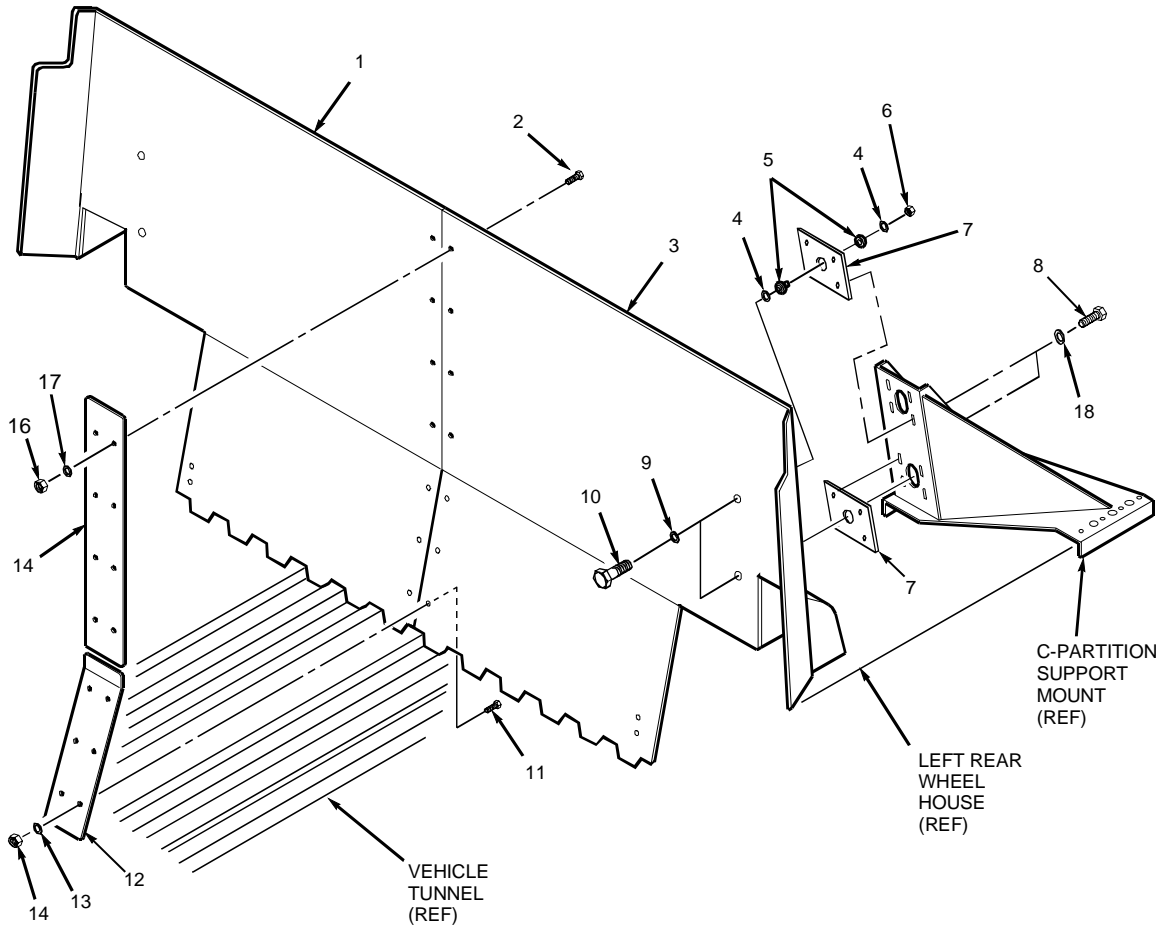

Figure 1-13. C-Partition Installation (4 Door Only)
- 3) Install C-partition as follows (see figure 1-13).
- a. Apply Sealing compound to 16 capscrews (8).
- b. Position left C-partition (3) and right C-partition (1) onto vehicle.
- c. Install upper C-partition gap strip (15) onto left C-partition (3) and secure with four capscrews (2), washers (17) and locknuts (16). Torque capscrews (2) to 37 lb ft (50 N•m).
- d. Secure right C-partition (1) to C-partition gap strip (15) with four capscrews (2), washers (17) and locknuts (16). Torque capscrews (2) to 37 lb ft (50 N•m).
- e. Install lower C-partition gap strip (12) onto left C-partition (3) and secure with three capscrews (11), washers (13) and locknuts (14). Torque capscrews (11) to 37 lb ft (50 N•m).
- f. Secure right C-partition (1) to lower C-partition gap strip (12) with three capscrews (11), washers (13) and locknuts (14). Torque capscrews (11) to 37 lb ft (50 N•m).
- g. Install two each isolation mount bushings (5) onto two C-partition mount brackets (7).
- h. Install two isolation mount brackets (7) onto C-partition support mount.
- i. Install two isolation mount brackets (7) onto C-partition support mount. Install two capscrews (10), two washers (9), four washers (4), and two locknuts (6). Secure each bracket (7) with four capscrews (8) and washers (18).
- j. Torque two locknuts (6) to 37 lb ft (50 N•m). Torque eight capscrews (8) to 21 lb ft (28 N•m).
- a. Install two isolator mount bushings (5) into isolator bracket (6).
- b. Install washer (4) onto two capscrews (7).
- c. Install two capscrews (7) into isolator bracket (6).
- d. Install washers (4) onto capscrews (7).
- e. Install isolator bracket (6) onto right C-partition assembly (1) securing with locknut (3) and washer (4). Torque capscrews (7) to 37 lb ft (50 N•m).
- f. Match drill four each 9/32-inch holes through isolator bracket (6) and vehicle rear wheel well.
- g. Apply sealing compound to four capscrews (10).
- h. Install C-partition tapping plate (9) and secure with two capscrews (10) and washers (11). Do not torque capscrews (10).
- i. Install shim(s) (8), as required. Torque capscrews (10) to 10 lb ft (14 N•m).
- j. Repeat steps a. through i. on left C-partition assembly (2) per figure 1-13, Detail B.